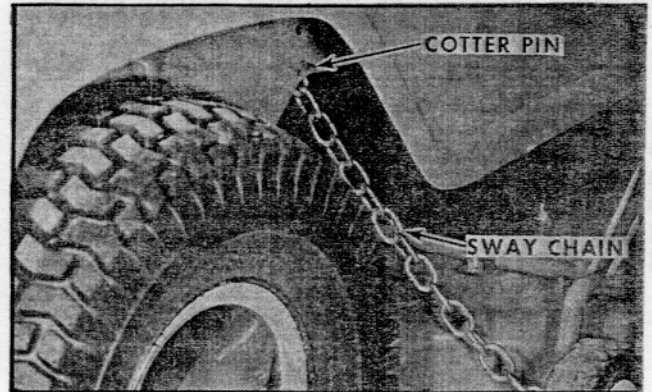

FIG. 17
2. Disconnect sway chains from mower by removing the cotter pins from the sway chain pins. (See Fig. 17)
To fasten sway chains to chassis, first place sway chain pin through top of chain (discharge side only, other side use next to last link) then through hole in chassis with chain inside chassis and secure with retainer pin on outside as shown in Fig. 17.